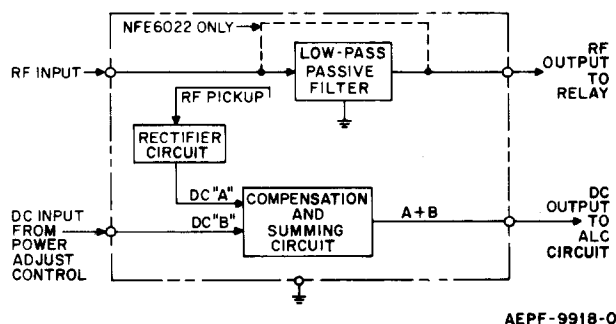

Figure 31. U107; Filter and Detector Module
Referring to Figure 31, the module contains an rf rectifier, and a dc compensation and summing circuit. A sample of the rf energy at the filter input is coupled and rectified, producing a dc voltage (A) that is proportional to the carrier signal amplitude. The rectified dc voltage is applied to a summing circuit. A positive dc voltage (B) from the power adjust control is also applied to the summing circuit. The circuit produces an output that is a function of voltages A + B. Since the output voltage depends on the power setting and the rf output level, it is applied to the automatic level control (ALC) module where it develops a control signal to maintain output carrier level at the desired amplitude.